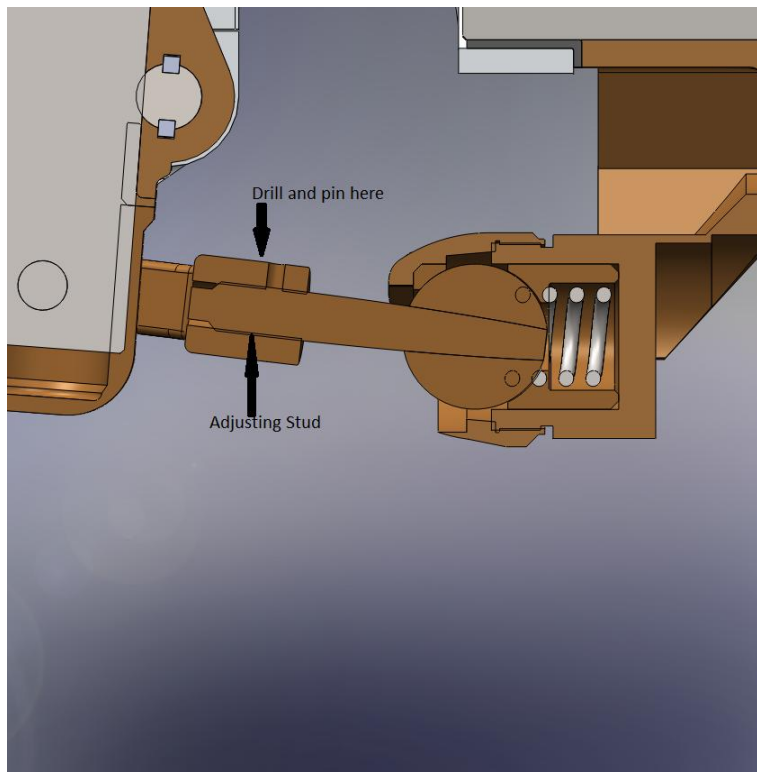

Figure 16: cross section of adjusting mechanism
16.4.1. Drill and pin adjusting mechanism. See **Figure 16**